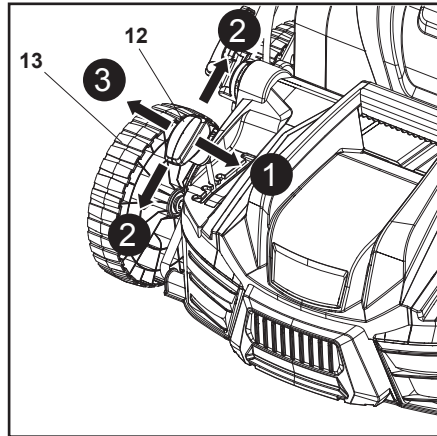

Fig. 12
1. Push the depth adjustment lever (12) away from the front wheel (13) (Fig. 12, step 1), then move it forward or backward to the desired working depth (Fig. 12, step 2).
2. Release the depth adjustment lever (12) and ensure it engages into place properly. Never adjust to any other intermediate position (Fig. 12, step 3)!